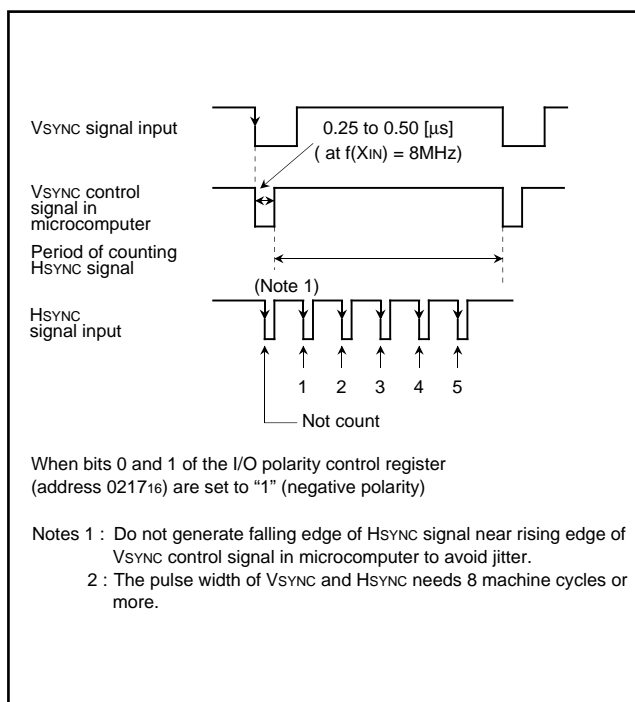

Fig. 54. Supplement explanation for display position
**Note:** When bits 0 and 1 of the I/O polarity control register (address 021716) are set to "1" (negative polarity), the vertical position is determined by counting falling edge of HSYNC signal after rising edge of VSYNC control signal in the microcomputer (refer to Figure 54).
To display the block with vertical dot size of 1/2H, whether an even field or an odd field is determined through differences in a synchronizing signal waveform of interlacing system. The dot line 0 or 1 (refer to Figure 62) corresponding to the field is displayed alternately. In the following, the field determination standard for the case where both the horizontal sync signal and the vertical sync signal are negative-polarity inputs will be explained. A field determination is determined by detecting the time from a falling edge of the horizontal sync signal until a falling edge of the VSYNC control signal (refer to Figure 54) in the microcomputer and then comparing this time with the time of the previous field. When the time is longer than the comparing time, it is regarded as even field. When the time is shorter, it is regarded as odd field